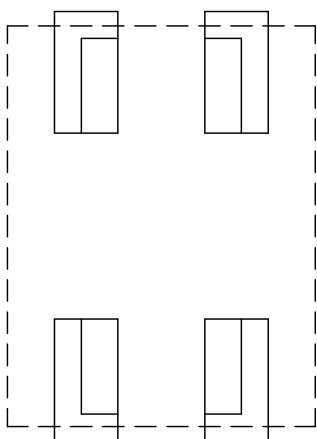

Figure 3-1
- b. Remove the four foam packing blocks from the upper packing assembly, and position them on a flat surface (e.g. the floor) as shown in Figure 3-1.
- c. Center the steamer on the blocks as shown in Figure 3-1 and 3-2.